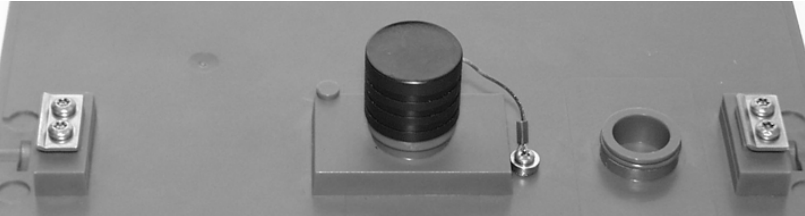

Figure 1-3 Upper Connector - Capped
**When a communication connector is not in use, the connector must always be capped** (Figures 1-3 and 1-5). The cap will seal the connector to prevent corrosion, prevent moisture from entering the unit, and improve communications.